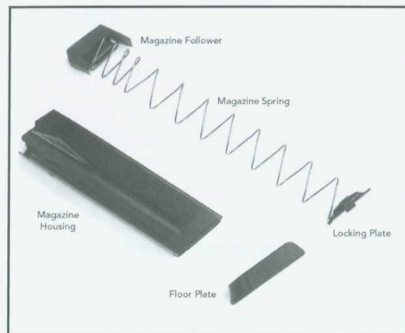

Figure 32
5. Remove the locking plate, magazine spring and magazine follower from the magazine housing (Figure 32).